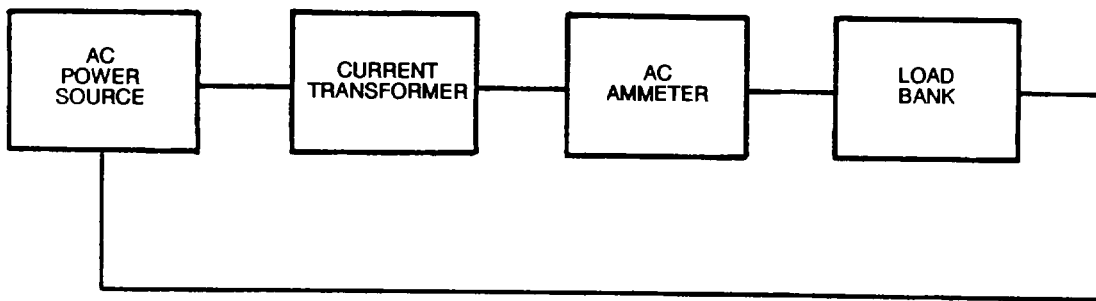

FIGURE 4-6. Testing Current Transformer
- d. Set up a test circuit using 10 gauge wire as shown in FIGURE 4-6. Make ten passes with wire through phase A window.